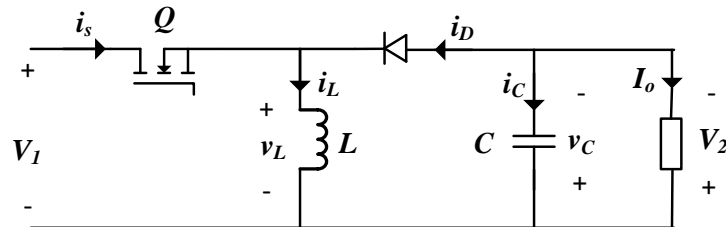

Fig. 2: Buck-Boost converter
- 3 (a) A Buck-Boost converter is shown in Fig. 2. The output current is assumed to be constant as I_o . The switching period is T and the duty ratio is k . The inductor current is continuous and all devices are assumed to be ideal.